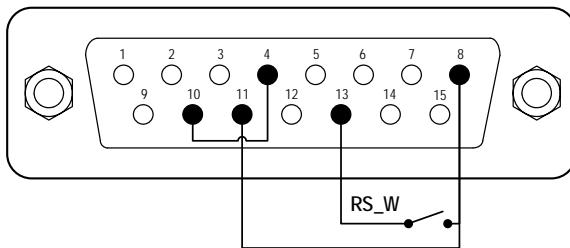
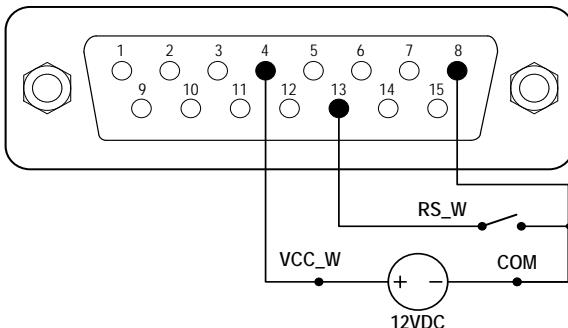

Figure 55. Control Start/Stop with Internal 12V Power Source
Figure 56. Control Start/Stop with External 12V Power Source
- 1) Power pump off. Wire the DB15 connector as shown in *Figure 55* or *Figure 56*, and connect it to the DB15 port on the rear of the pump.